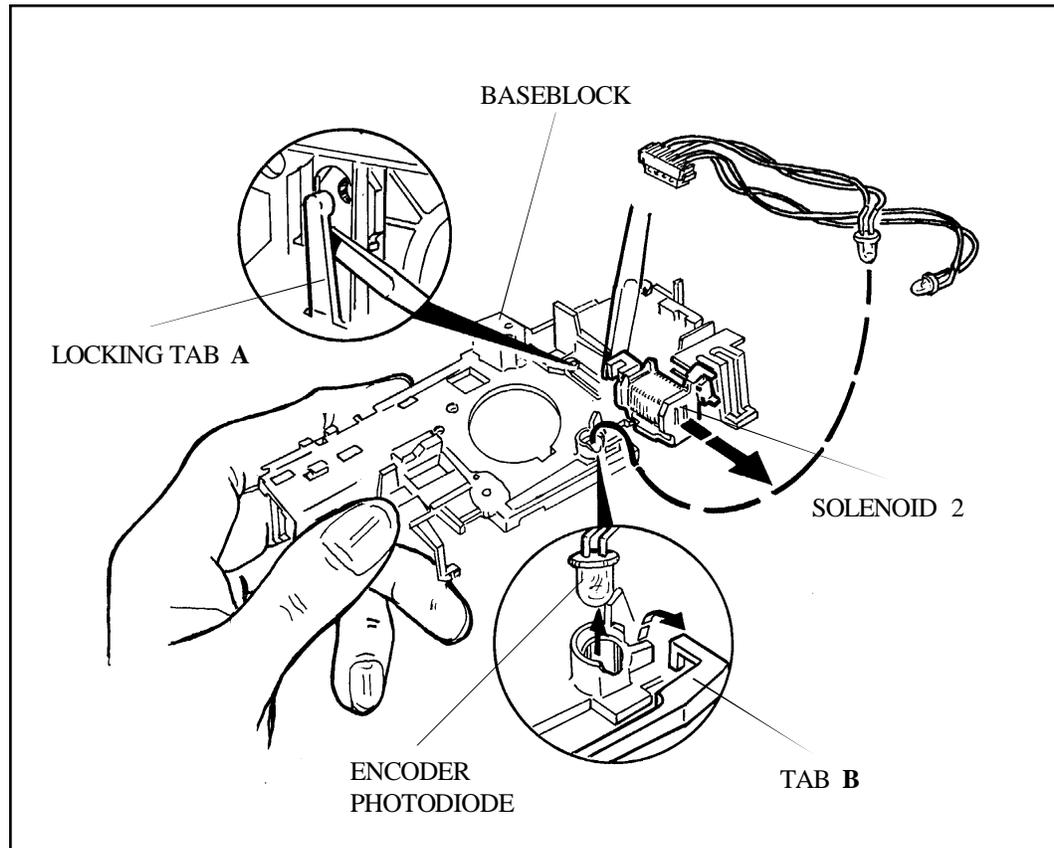

Figure 3-44. Removing Solenoid 2 and Photodiode from Baseblock
- o. To remove Sol 2, depress the Baseblock locking tab “A” and simultaneously pry the Solenoid upward out of the Baseblock (Figure 3-44).
- p. Remove the Encoder photodiode and Cable Assembly by springing tab **B** outward and then upward (Figure 3-44).